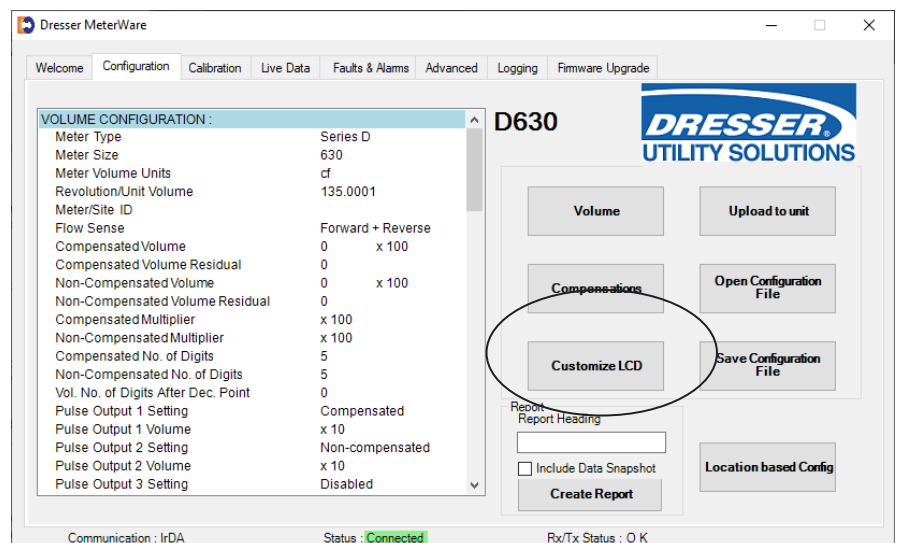

Figure 1.1 Example - Configuration screen in Dresser MeterWare
1. Using the Dresser MeterWare software, go to the **Configuration** screen (Figure 1.1 Example), and select **Customize LCD**, which will open the **LCD Settings** screen.